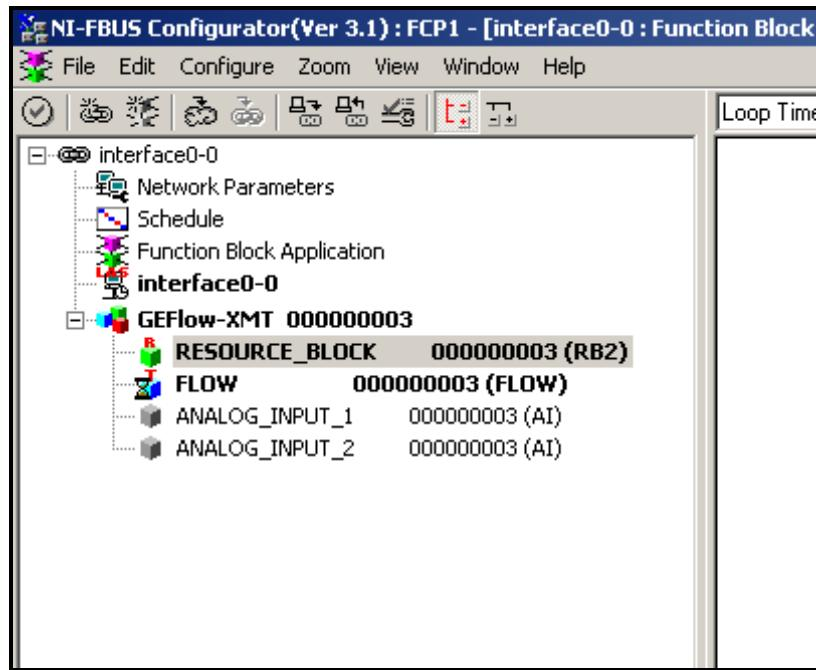

Figure 47: Configuration Utility Setup Example
Figure 47 shows the Configuration Utility with a flowmeter on the network (GE Flow-XMT).
1. Double click on the AI block for which you wish to set the units (ANALOG_INPUT_1 or ANALOG_INPUT_2 in the tree under GEFLOW-XMT; see Figure 47 on page 62).
1. Double click on the FLOW transducer block (in the tree under GEFLOW-XMT; see Figure 47 on page 62).